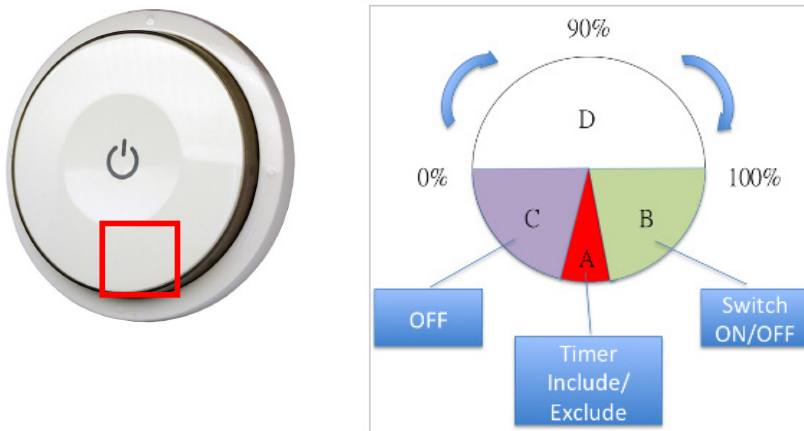

Figure 1
d. PSR04/07 series: Pointing the arrowhead to area A (Shown in Fig. 1) and pressing the button three times within 1.5 seconds to enter inclusion mode. The red LED will light up for 1 second if succeed.